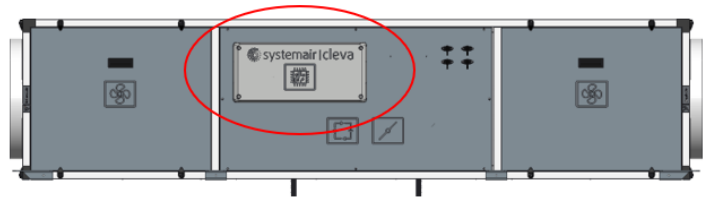

Figure 12.
2. **Ceiling installation.** For ceiling mounting, use the components shown in Figure 12, which are supplied as accessories for installation on the unit. The original feet must be removed before installing these components, as both use the same anchoring points. The unit includes integrated rivet nuts in the frame to facilitate fastening of